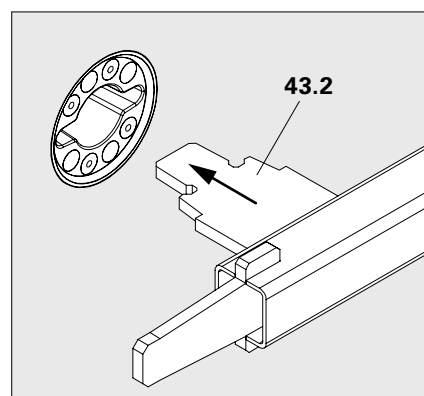

Fig. A13.04c
4. Insert retaining lugs (43.2) into the cleaned openings. (Fig. A13.04c)